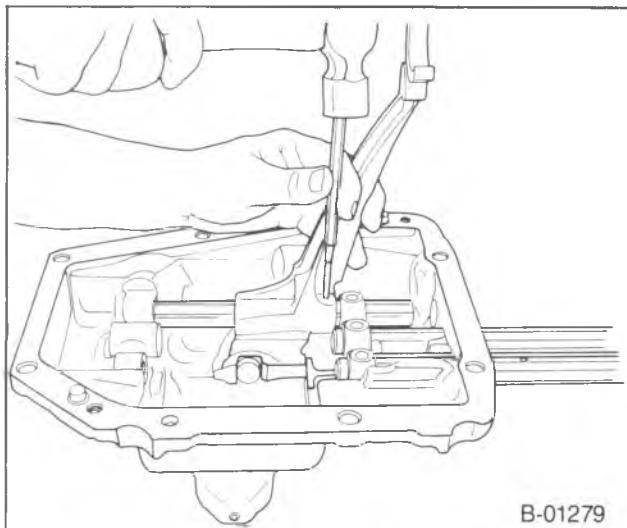

Figure 51—Removing the Retaining Pin
Work retaining pins (303), (figure 51).